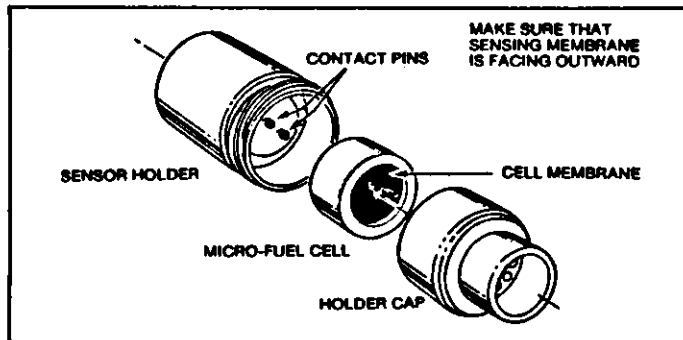

Figure 1. Installing Cell in Holder
2. Unscrew the holder cap from the sensor holder as shown in Figure 1.